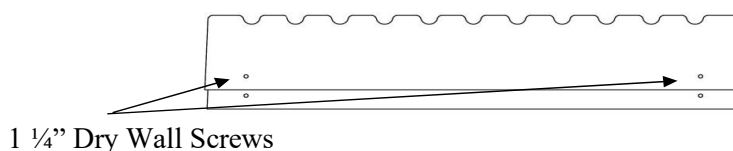

FIGURE 8
7. Apply adhesive around the perimeter of the large box. Compress the small and large support box structures back together to the appropriate markings made earlier on the small box. Place the support structure back into the channel and insert the CleanCut Step to verify that proper placement has been achieved. Secure both sides of the support structure by placing two screws in each side (Figure 8).